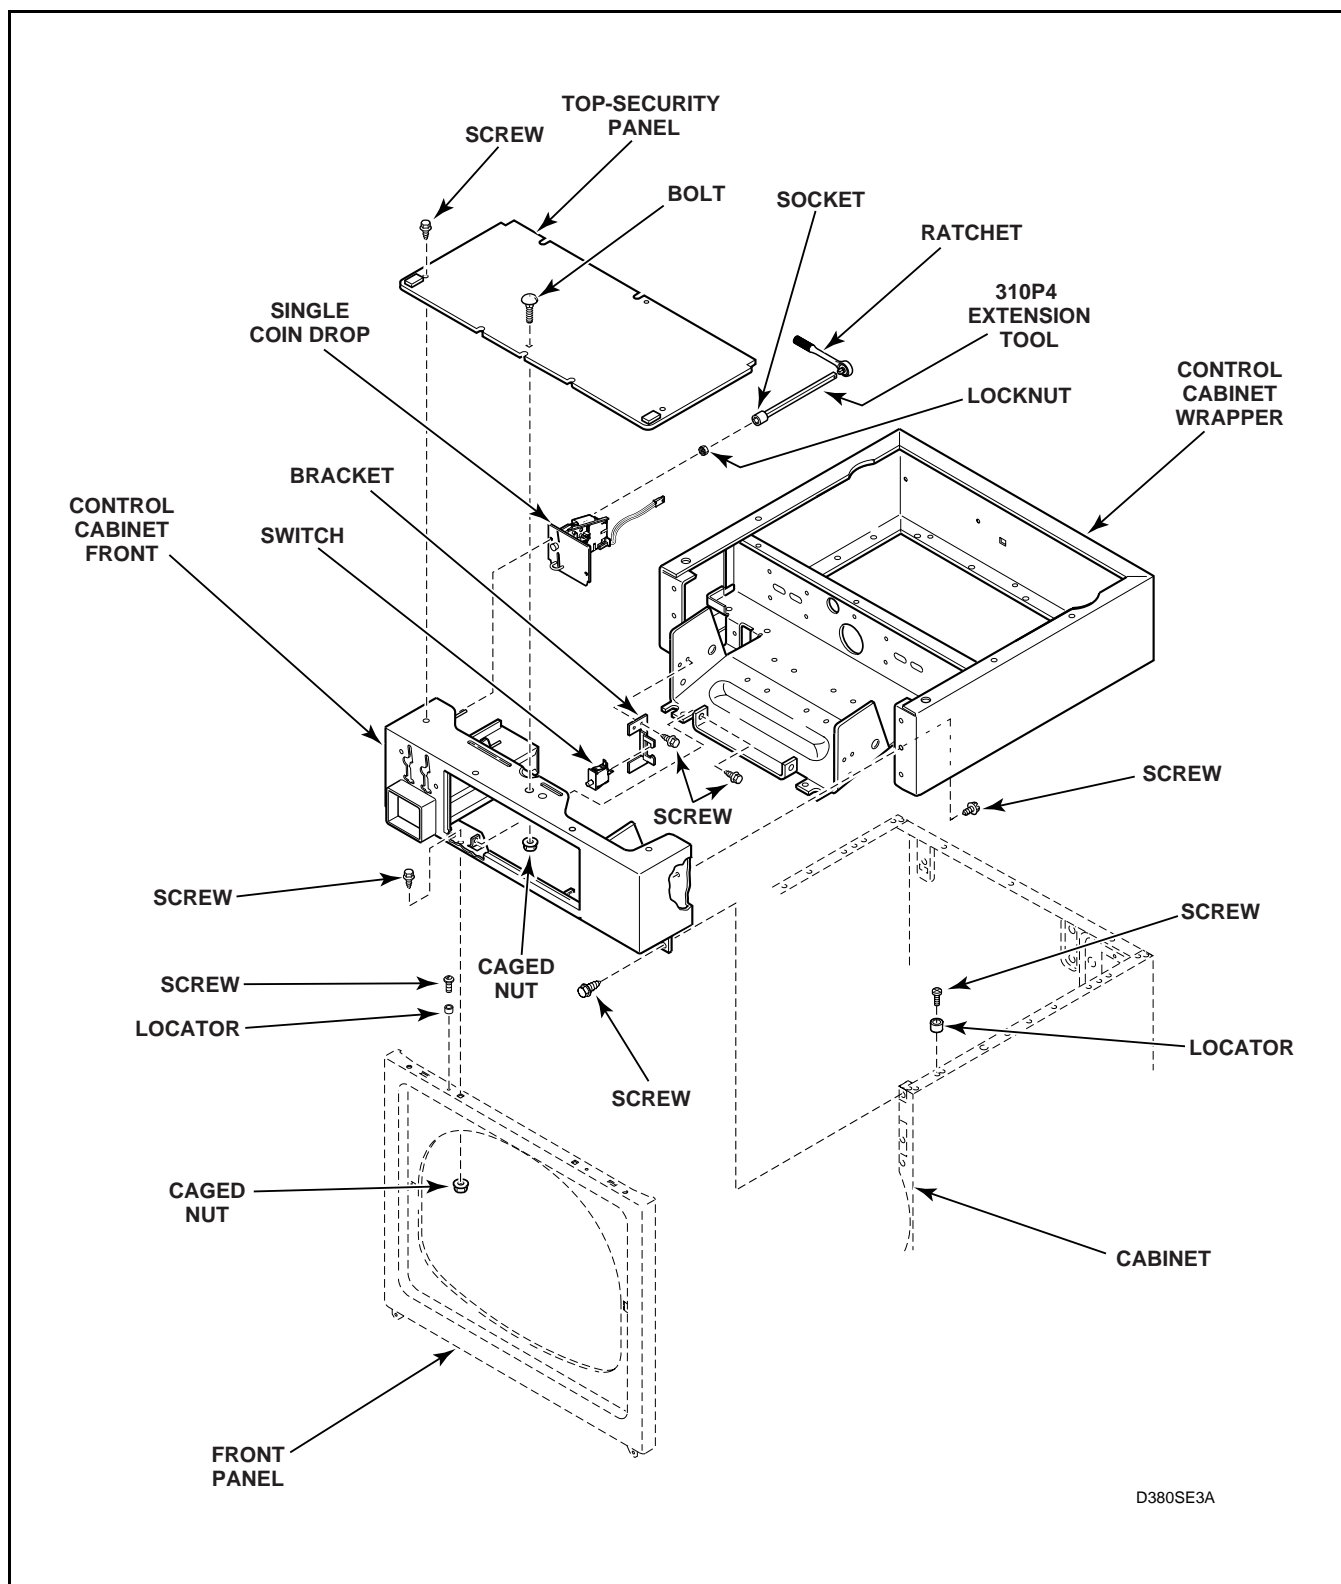

Figure 11
- h. Remove two screws holding bottom tabs on front panel to dryer side panels. See *Figure 11*.
- k. Remove two screws holding bottom tabs on control cabinet to front flange of dryer cabinet. See *Figure 11*.
- l. Remove two screws holding the top panel to the top side of the control cabinet. See *Figure 11*.
- m. Reach in through front opening of control cabinet and remove two screws (per side) holding the control cabinet front to the front flange of the control cabinet wrapper. See *Figure 11*.
- n. **METERED MODELS** (Coin Drop and Coin Slide) - Unlock and remove coin drawers. Reach in through coin drawer opening and remove two screws holding control cabinet to control cabinet wrapper. See *Figure 11*.
- o. Reach through control panel opening and remove two screws holding the control cabinet wrapper tabs to the control cabinet front tabs. See *Figure 11*.
- p. Carefully pull control cabinet front straight out. See *Figure 11*.
- (4.) Remove 2 screws holding front of cabinet top to top front edge of control cabinet front. See *Figure 11*.
- (6.) Remove screws and carriage bolt holding security top panel to control cabinet front. See *Figure 11*. Slide security top panel back just far enough to disengage tabs on panel from control cabinet front and remove security panel. See *Figure 11*.